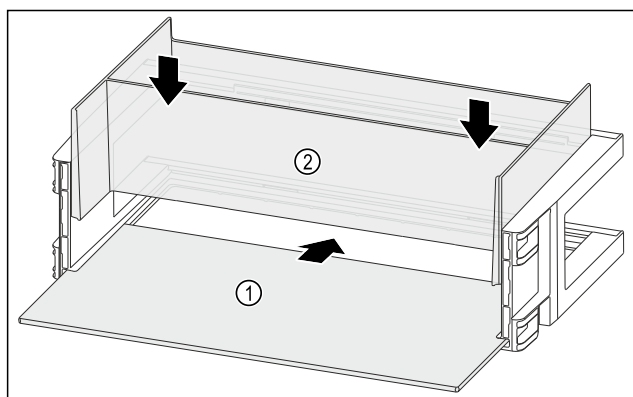

Fig. 145
- Push the shelf *Fig. 145 (1)* into the side recesses.
- Insert the organiser *Fig. 145 (2)*.